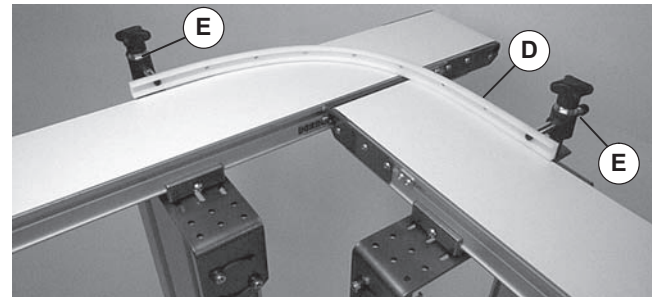

Figure 6
6. Determine arc of guide (Figure 6, item D) and position of guide mounts (E). Adjust guide mounts to create desired guide position.